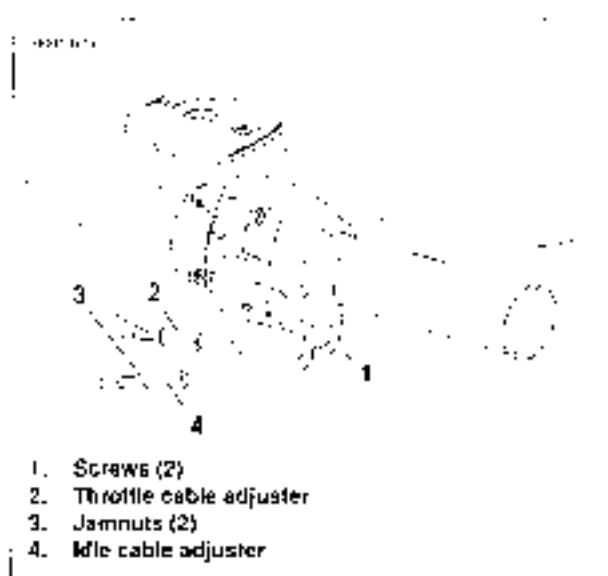

Figure 1-55. Throttle Cable Adjusters
1. See Figure 1-55. Remove two screws (1) to separate the upper handlebar housing from the lower housing.
5. When assembling the handlebar housing, tighten both screws (1) to 35-45 in-lbs (4.0-5.1 Nm).
1. See Figure 1-55. Turn the cable adjusters (2-4) and jamnuts (3) as short as they will go. Both cables should have zero adjustment at the start of this procedure.